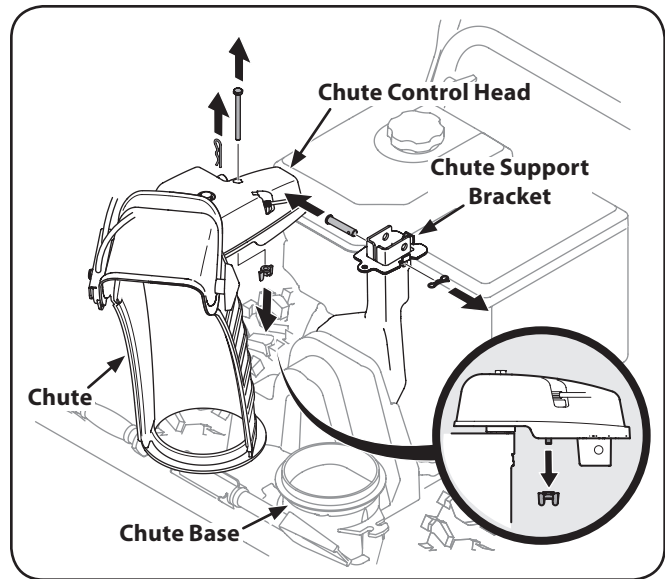

Figure 3-2
1. Remove cotter pin, wing nut and hex screw from chute control head and clevis pin and bow-tie cotter pin from chute support bracket. Position the chute over the chute base. See Fig. 3-2.
3. Finish securing chute control head to chute support bracket with wing nut and hex screw removed in step 1. See Fig. 3-2.